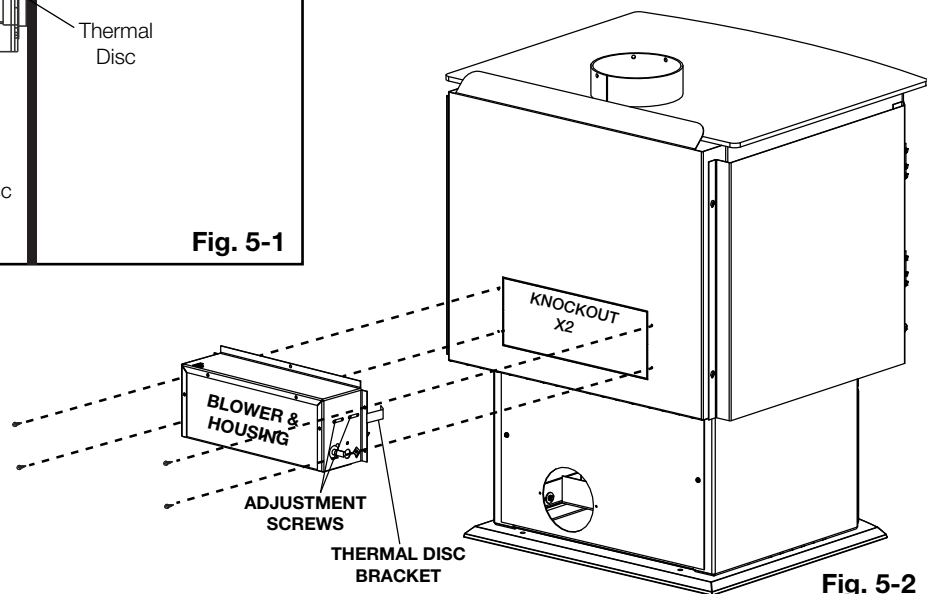

Fig. 5-2
3. Install the blower and housing as shown (**Fig. 5-2**) using 4 screws (supplied).